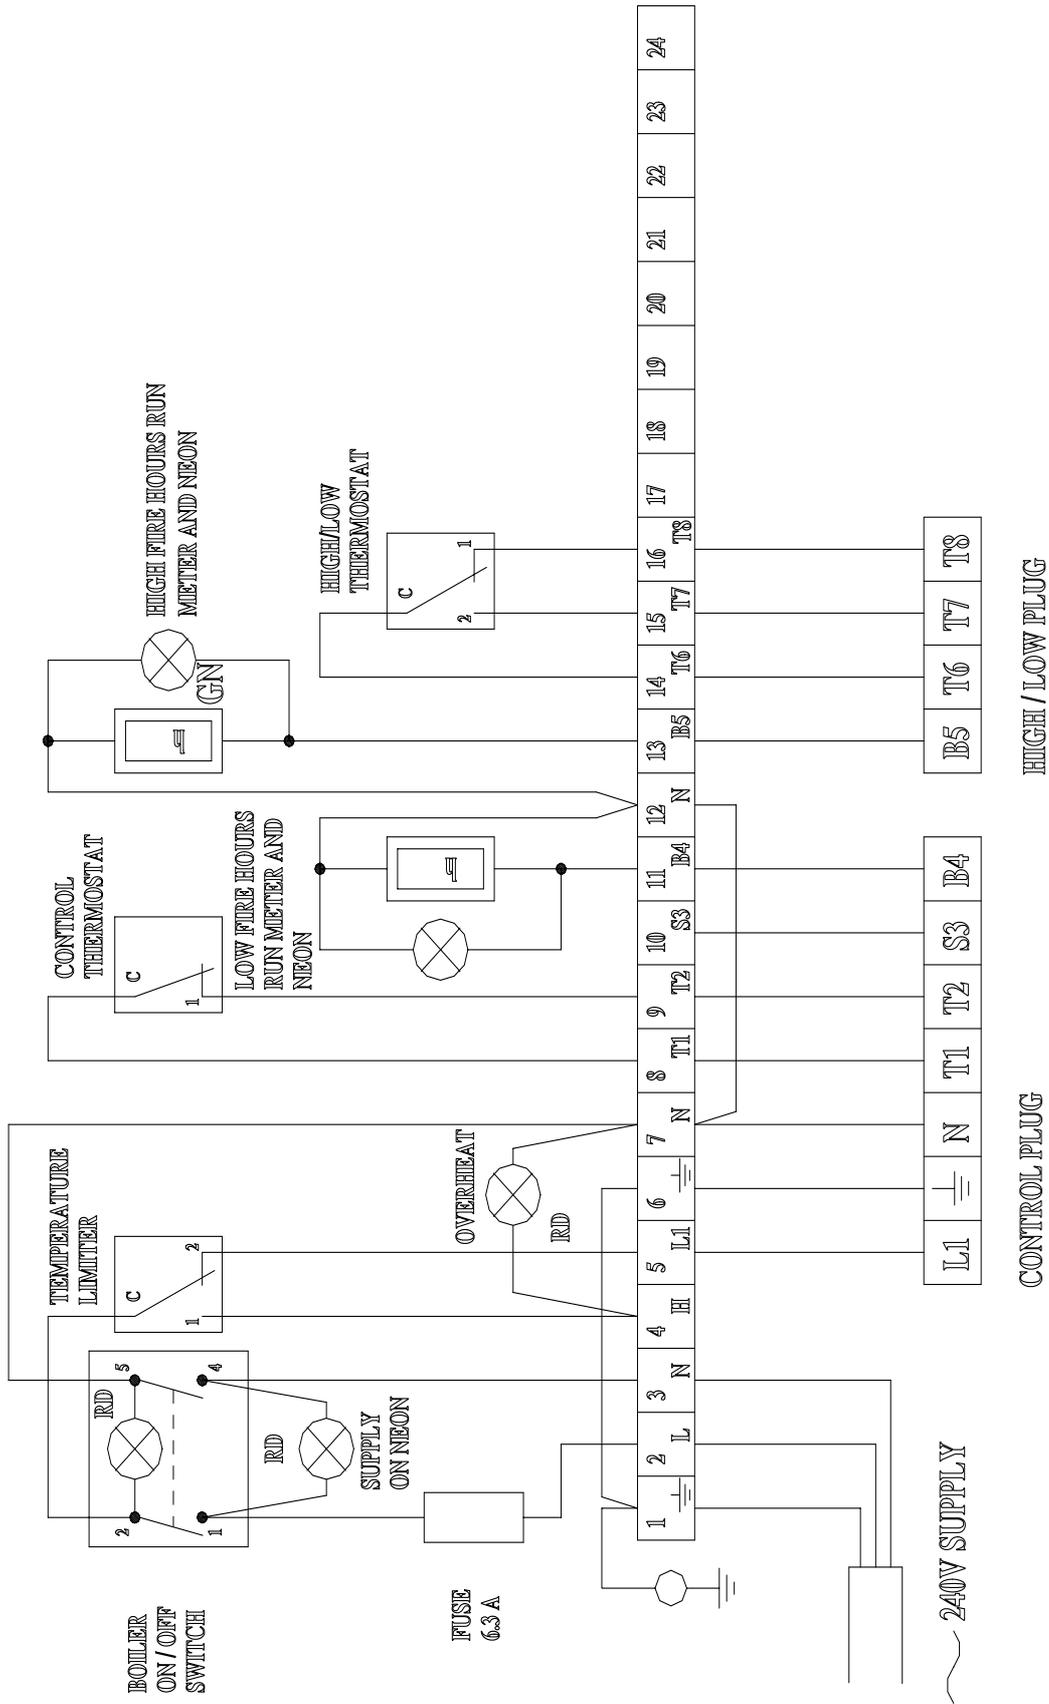

Figure 3 - Boiler Control Panel Wiring Diagram
The boiler control panel includes a terminal block for all electrical connections to the boiler. Refer to Fig.3.
- a.** Locate and select the casing side panels (2). These consist of a left and right hand panel with a hinged section and an additional left and right extension panel, except for the Lulworth HE L11, which has 2 extension panels each side.
- b.** Fit the front side casings with hinged section by clipping over the square top and bottom side rails welded between the bulkheads. Ensure that the welded brackets (4) on the bottom rail are open sufficiently to receive the panels and that the hinged section protrudes forward at the front bulkhead. These hinged sections are provided to allow the burner door to hinge open without removing the casing.
- c.** Complete the side casing by clipping on the extension panels (3) in a similar manner.
- d.** Select the front top casing panel (5) which contains the mounting and access holes for the control panel. Mount the spring catches into the appropriate holes in the panel and push panel into position.
- e.** Select the control panel (6) and remove the top half. Carefully unwind the four capillaries, for the thermostats and thermometer, and the flying leads for connection to the burner ensuring they are all fed through the access hole in the bottom of the panel.
- i.** Locate the remaining top casing panels (7), mount the spring catches into the appropriate holes and fit to side panels to complete the top casing.
- j.** Adjust the position of the front door casing panel (1) to centralise between side panels and tighten bolts.
7.2 Control Panel (Refer to Fig. 3)